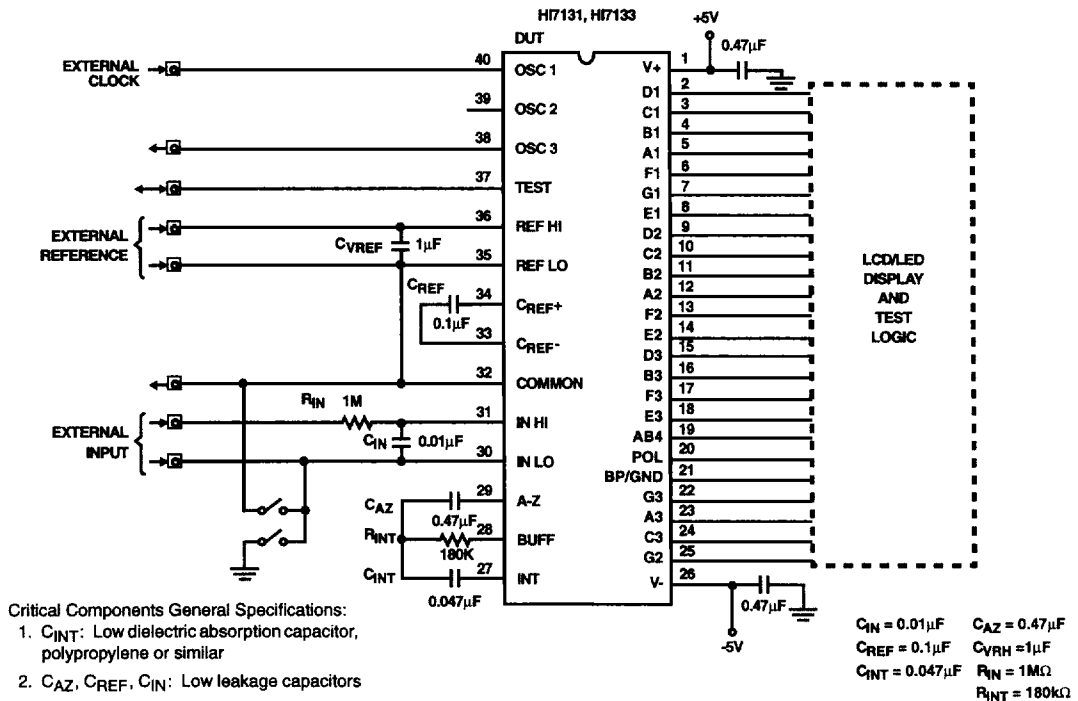

FIGURE 2. TEST CIRCUIT
## Electrical Specifications (Notes 5, 6, 7) $T_A = 25^\circ C$ . Device is Tested in the Circuit Shown in Figure 2. Full Scale Range (FSR) = 200.0mV, Unless Otherwise Specified
**Electrical Specifications** (Notes 5, 6, 7)  $T_A = 25^\circ\text{C}$ . Device is Tested in the Circuit Shown in Figure 2.